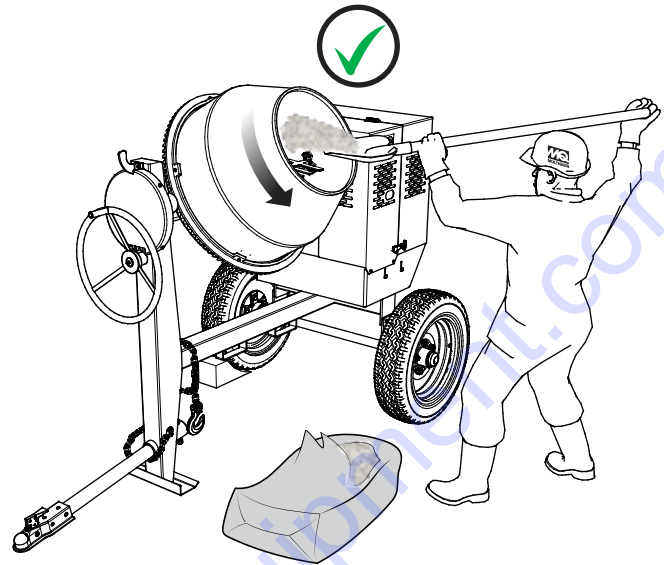

Figure 21. Filling Mixing Drum (CORRECT)
2. As the drum rotates, use a shovel (Figure 21) to place the cement mix inside the drum, add water as required. Be careful to only place the tip of the shovel inside the drum.